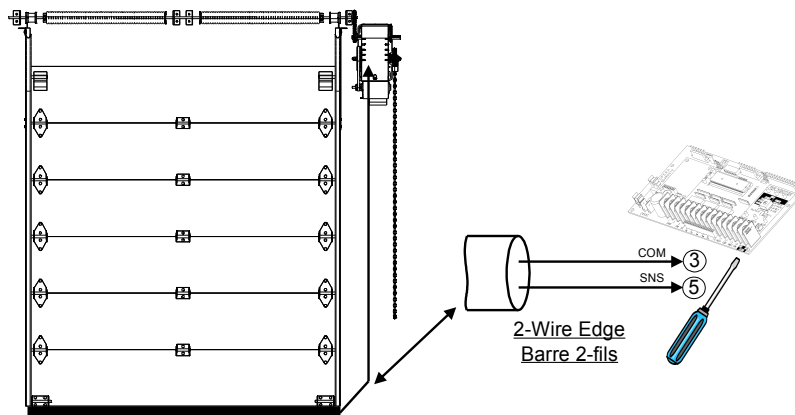

Figure 22 - Electric Reversing Edge
3. Use a coil cord or take-up reel to connect the sensing edge wires to the operator terminals. Install electric wires according to Figure 22.